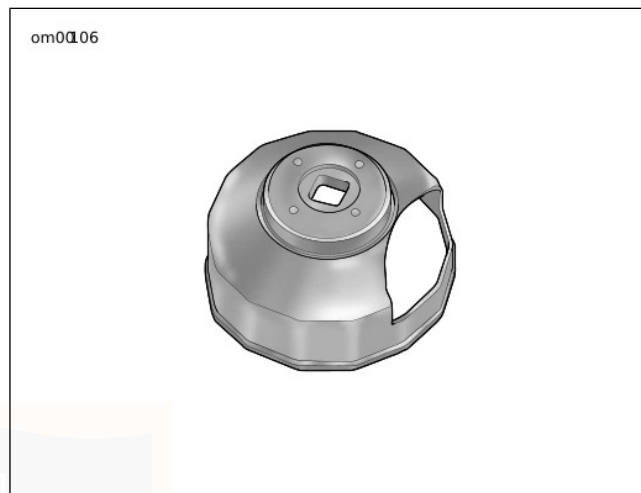

Figure 28. Oil Filter Wrench (Part No. HD-44067)
3. See Figure 28. Remove the oil filter using the OIL FILTER WRENCH (PART NUMBER: HD-44067). Clean the oil filter mount flange of any old gasket material (surface should be smooth and free of any debris or old gasket material).